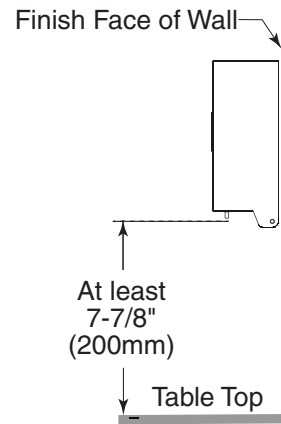

Fig. 1
Distance: At least 20cm for Table Top (Fig. 1).
2. Drill four (4) holes at marked locations 1/4" diameter (06.4).
3. Insert four (4) plastic anchors (supplied) into drilled holes; remove template (Fig. 1).